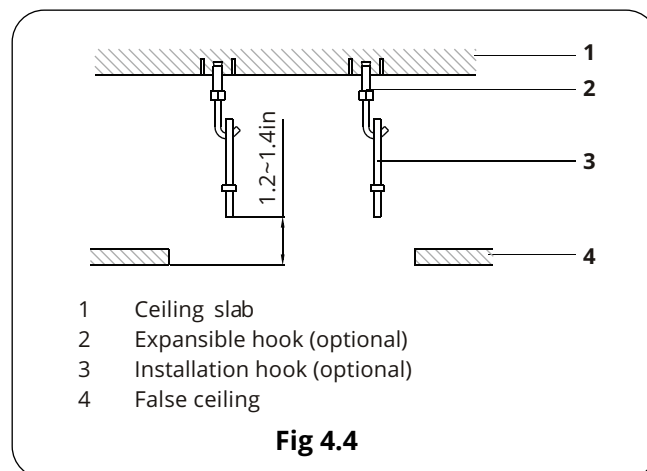

Fig 4.4
Use threaded rod for installation. Check whether the ceiling is strong enough to support the weight of the indoor unit. If there is a risk, reinforce the ceiling before installing the unit. Space required for installation. See **Fig. 4.4** on the next page for details.
- Adjust clearance from the ceiling before proceeding further. See **Fig. 4.4** for Installation example.